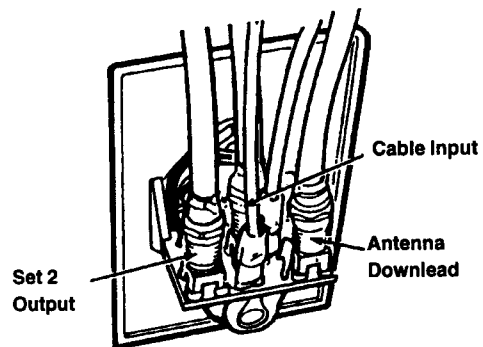

FIGURE 9
**STEP 13:** Install connectors on downlead, set 2 and cable input cables as shown on page 6. Attach downlead cable to jack on wallplate/power supply marked antenna as shown in Figure 9. Attach cable going to set 2 outlet to jack on power supply marked SET 2. Attach cable coming from cable input to jack on power supply marked CABLE.